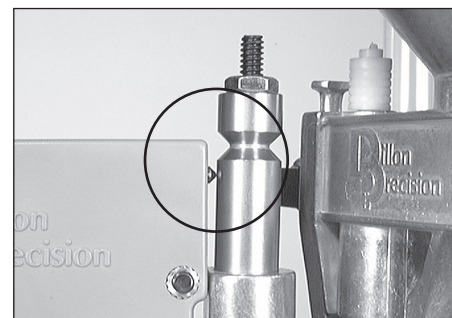

FIG 145
4. Raise the platform FIG 145. The contact pin is below the groove (the alarm sounds) indicating that the powder charge is double or more.